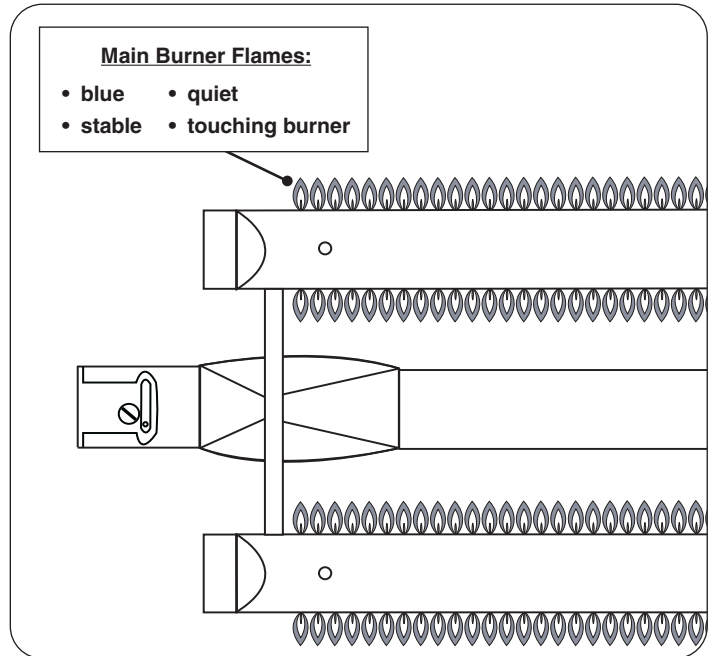

Fig. 38-1 Proper flame appearance
**Note:** To verify proper settings, the flames of the burners should be visually checked for proper flame appearance and behavior. Light the grill with the burner(s) on HI setting. Allow at least 2 minutes to burn. See below and Fig. 38-1. The flames should: